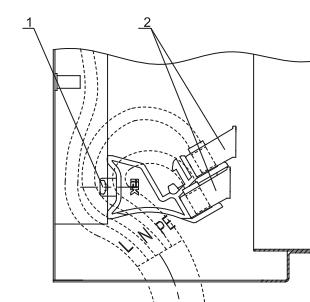

Рисунок 4 – Схема ввода проводов / Figure 4 – Wiring diagram / 4-сурет – Сымдардың енгізу схемасы
Holders with busbars (2) snap into supports (1) without the use of special tools. The wiring diagram is shown in figure 4.